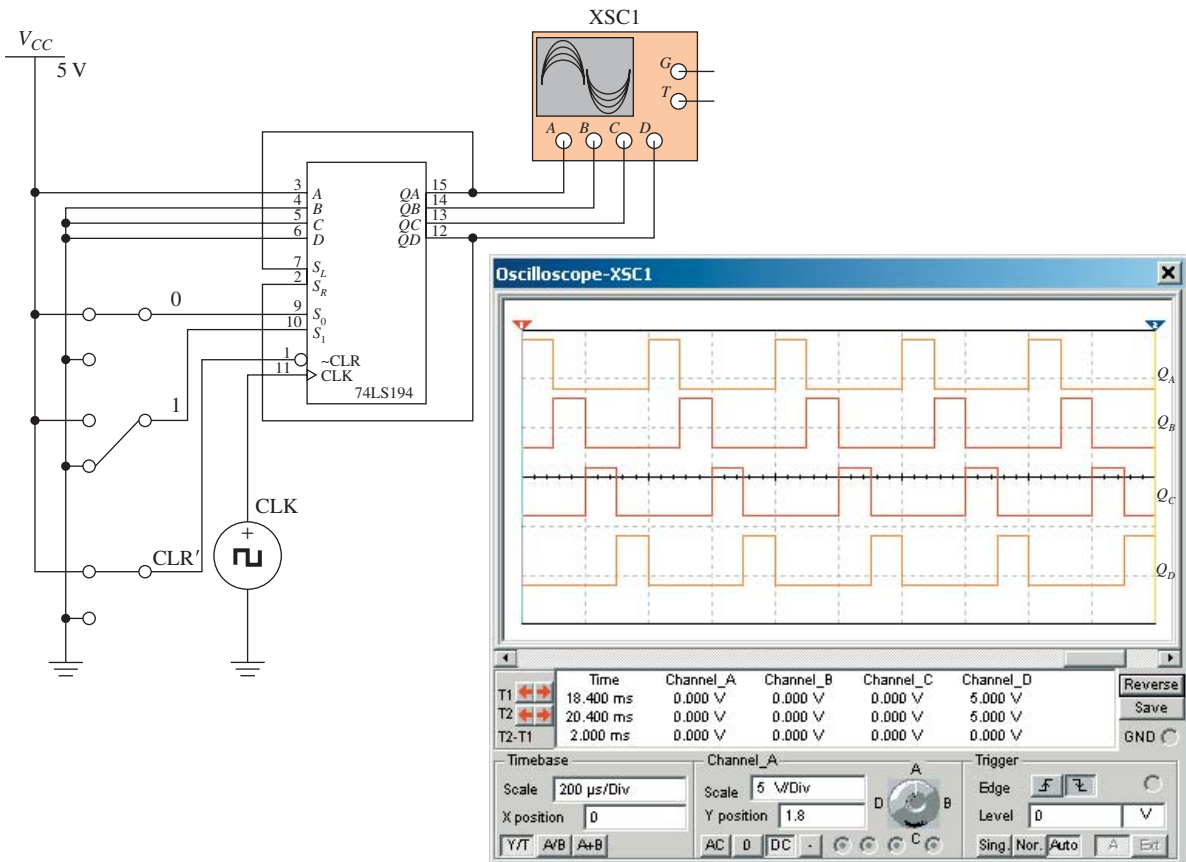

Figure 16 Using MultiSIM[®] to illustrate the operations of the 74LS194 shift register.
Figure 16 shows a MultiSIM[®] simulation of a 74LS194 shift register currently in the shift-right mode. The four-channel oscilloscope is used to monitor all four Q outputs concurrently. A constant 10-kHz clock signal is applied to CLK and switches are provided on S_0 and S_1 to allow the operating mode to be changed during simulation.
- (a) Load the file *fig16* from the text companion website. Turn the power switch ON and place all switches HIGH. Because S_0 - S_1 are 1-1 you are performing a parallel load which is connected to 1-0-0-0. (Notice on the oscilloscope that the Q_A waveform is HIGH and the others are LOW.) Now make S_1 LOW by pressing 1 on the keyboard to move the S_1 switch down. The data are now shifting right and the waveforms should look like those in Figure 16.